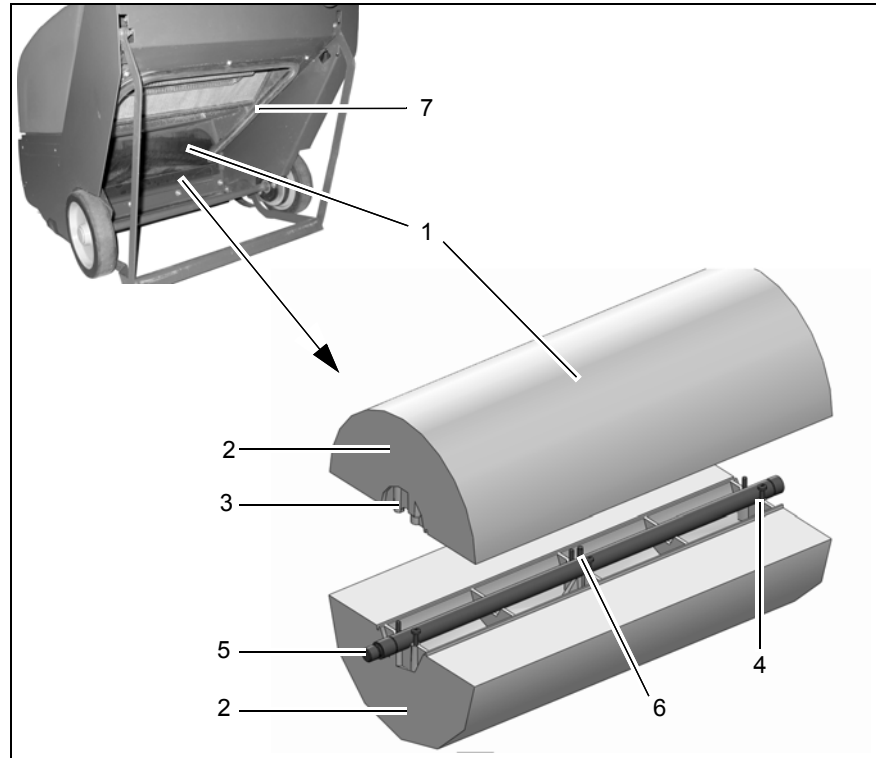

Fig. 20
The brush space with the rotary brush (Fig. 20/1) and seals for the dirt hopper (Fig. 20/7) must be checked daily for signs of dirt and cleaned as necessary.
The rotary brush (Fig. 20/1) must be checked weekly and changed in the case of wear. A new rotary brush has a diameter of 25 cm. When a rotary brush has a diameter of only 20 cm, it must be replaced with a new one. The rotary brush (Fig. 20/1) is comprised of two rotary brush segments (Fig. 20/2) which are fixed to the rotary brush shaft (Fig. 20/5) by the screws (Fig. 20/4). Pay attention that the bristle pattern on the rotary brush (Fig. 20/1) is always arranged in a V-shape in the direction of driving so that the dirt is guided to the center of the rotary brush.
2. First of all, disassemble the two adjacent rotary brush segments (Fig. 20/2): Loosen the screws (Fig. 20/4) and remove the rotary brush segments (Fig. 20/2).
3. Then turn the rotary brush shaft (Fig. 20/5) 180° by hand and disassemble the two remaining rotary brush segments (Fig. 20/2).
4. Assemble four new rotary brush segments (Fig. 20/2) in the reverse sequence. When doing so, pay attention that the rotary brush segments (Fig. 20/2) are installed on the guide pins (Fig. 20/6) of the rotary brush shaft (Fig. 20/5) and screw to facing rotary brush segments (Fig. 20/2) firmly to each other.
7. After changing the rotary brush (Fig. 20/1), readjust the sweeping pattern as necessary.
In the case of brush wear, and after changing the rotary brush (Fig. 20/1), the sweeping pattern must be readjusted.